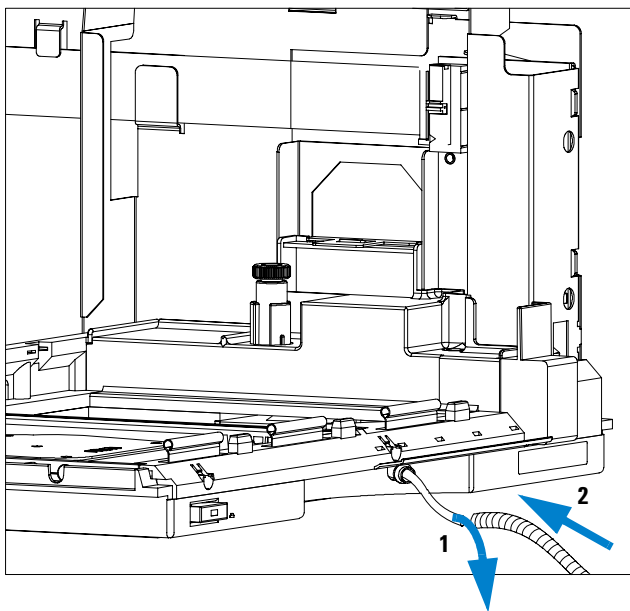

Figure 5 Installing the Corrugated Waste Tubing in the Plastic Port
- 5 Install the corrugated waste tube in the plastic port at the front bottom center of the instrument. Slide the waste tubing coming from the internal tray (if present) through the plastic port and the corrugated waste tube (see Figure 5 on page 23). Route the corrugated waste tubing into a waste container.
the plastic port and the corrugated waste tube (see Figure 5 on page 23). Route the corrugated waste tubing into a waste container.